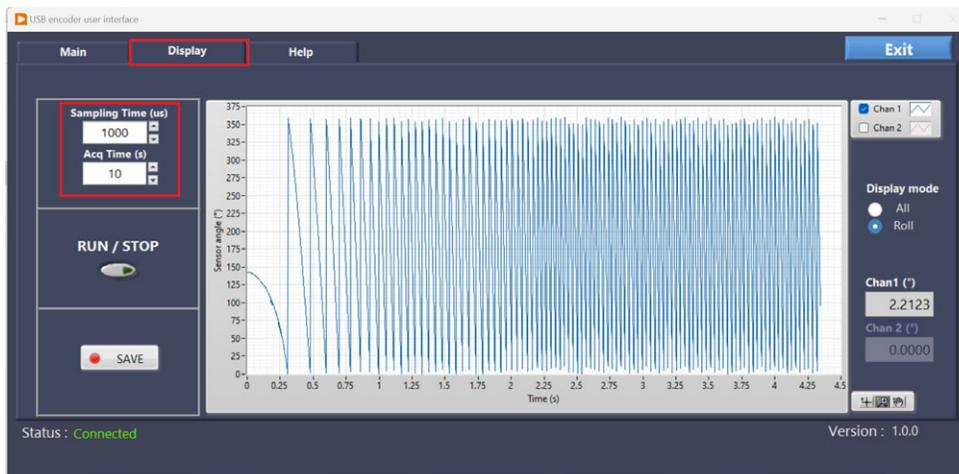

Fig. 19 - Acquisition data sensor in “Roll” display mode
- The output frame is sampled at a constant value that can be configured from the sampling time (us) box shown in Fig. 19